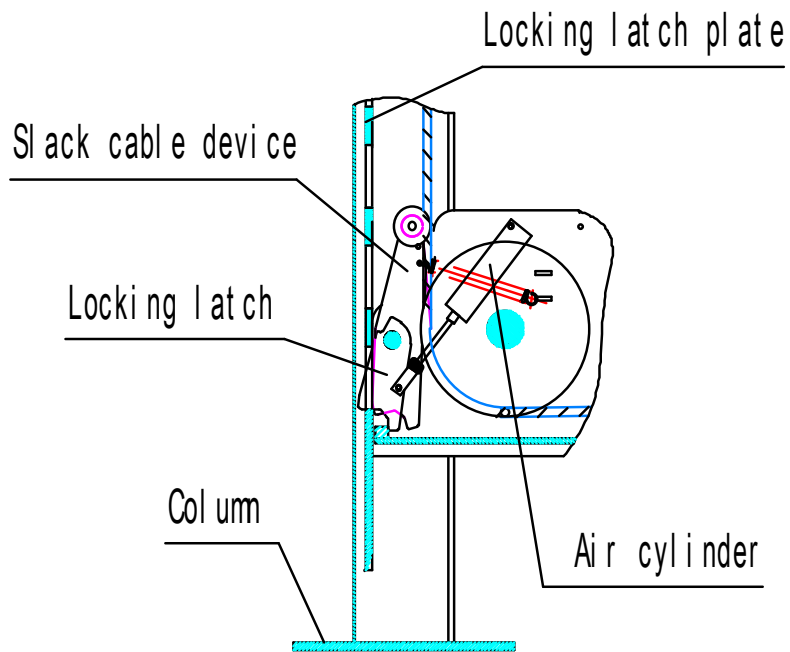

Fig.3
- **Cable slack or broken protection:** During the raising and lowering the lift, the equal tension cables will press the slack cable roller to disengage the latches. If the cable is slack or breaks, the slack cable device will insert into the slot of locking latch plate to ensure the safety. (Fig. 3)